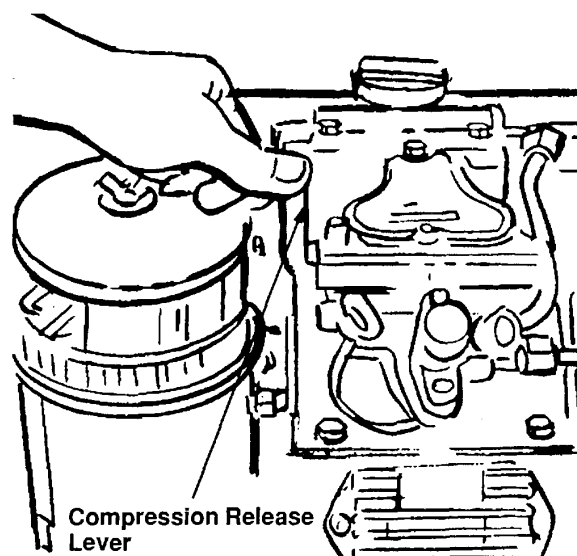

Figure 2-9. Activating Compression Release Lever
- b. Push compression release lever on top of engine toward the rear of trailer and hold, fig. 2-9.
- c. Crank engine by turning starter switch to "start" position, fig. d. When engine starts, after a couple of revolutions, release compression release lever, fig. 2-9.